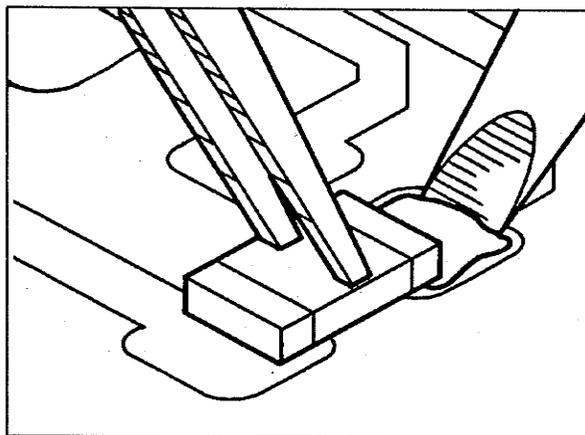

Figure 3 - 3
5. With one component end tacked to hold it, the other end can be soldered. Carefully apply heat to the PC pad while adding only enough fresh solder to produce a clean fillet as in Figure 3 - 4 — do not apply too much solder, otherwise it may flow underneath and short the pads together. Let the hot solder flow onto the component—do not touch the component with the iron. Repeat to finish the other end of the component. Solder must adhere to all metallic end-surfaces on both ends as shown in Figure 3 - 5.